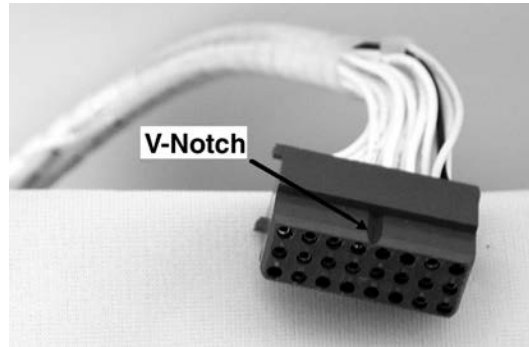

Figure 5 M-2001 Harness Connector
■ **NOTE:** The blue connector is keyed by a "V" notch in the middle to prevent incorrect mating (Figure 5). Check location of the key before plugging connector into the M-2001.